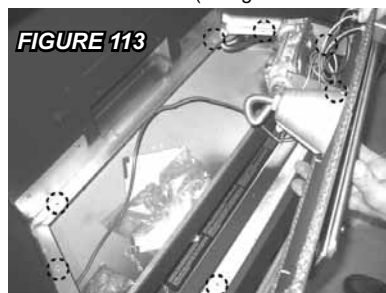

FIGURE 113
4. Remove the 6 screws illustrated in Fig. 113 and lift out the log support. Be careful not to lose the spacers for the screws indicated.